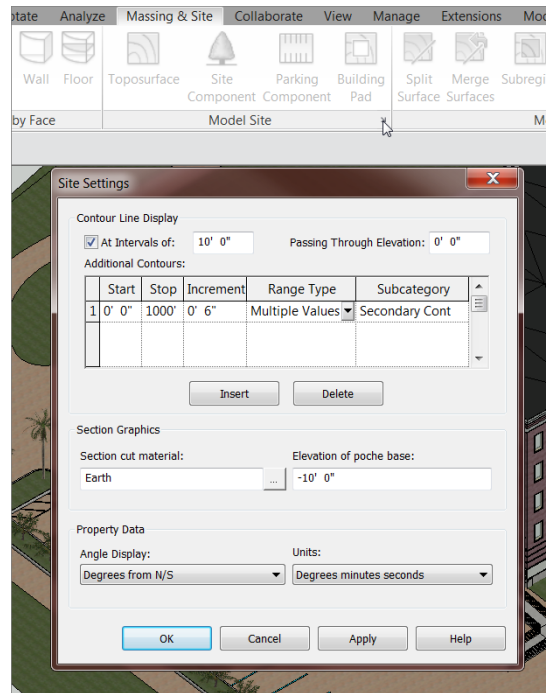

FIGURE 18.19: Changing the additional contour increment
1. Click the arrow in the lower-right corner of the Model Site panel, as shown in Figure 18.19.
2. In the Site Settings dialog that opens is a field that contains additional contours. In the Increment panel, change the value 1'–0" (300mm) to 6" (150mm) (see Figure 18.19).